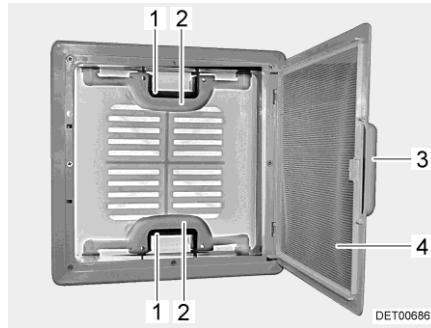

Fig. 20      Skylight with snap latch
- Pull on the handle (Fig. 20,3).
- Fold insect screen (Fig. 20,4) downward.
- Push the snap latch (Fig. 20,1) towards the inside of the skylight. At the same time use the handle (Fig. 20,2) to press the skylight upwards.
- Swing insect screen (Fig. 20,4) upwards until it latches in place.
- Using both handles (Fig. 20,2), pull down the skylight with force until the two snap latches (Fig. 20,1) lock into place.